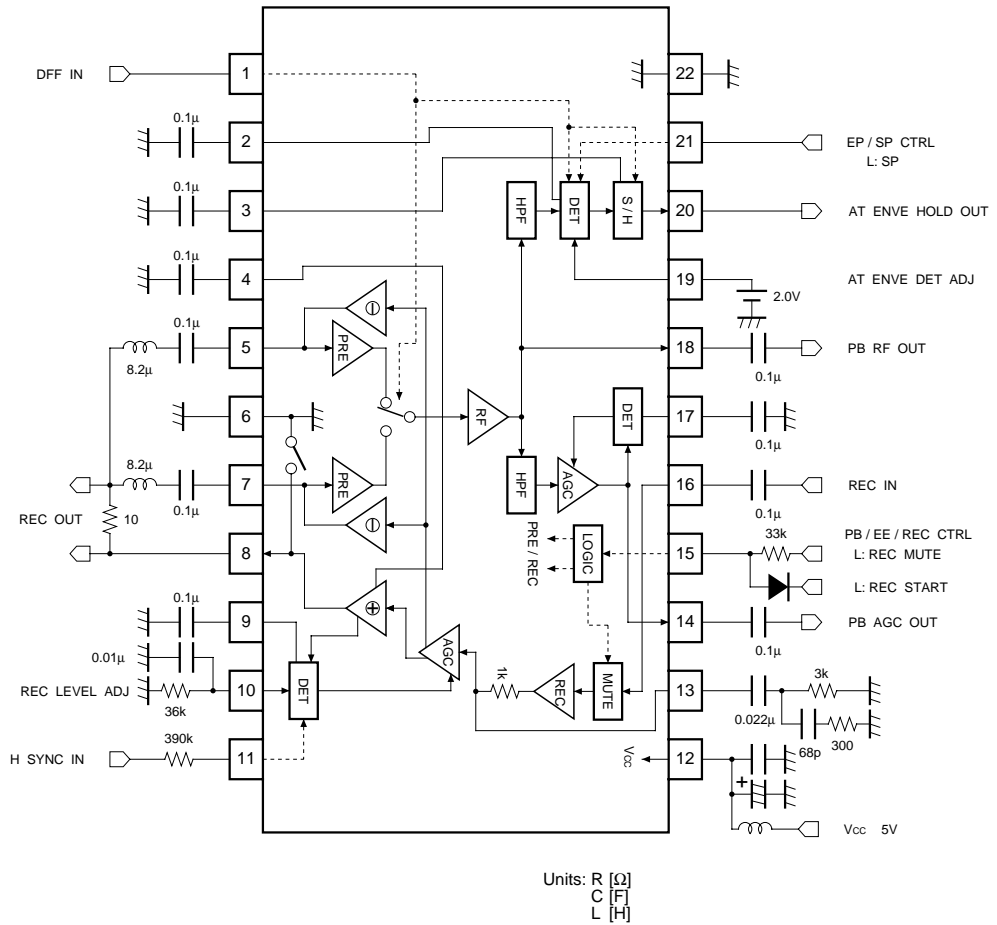

Fig. 2
| Quiescent current | $I_q (R)$ | — | 72 | 108 | mA | No signal | Fig.2 |
| Recording AGC level | I_{OAR} | 30 | 36 | 42 | mA_{P-P} | Pin 16 input = 400mV _{P-P} , pin 8 output measurement | Fig.2 |
| AGC control sensitivity | ΔI_{OAR} | — | 0.15 | 2 | dB | Pin 8 output level difference for $f = 4.0\text{MHz}$, pin 16 input = 225mV _{P-P} to 800mV _{P-P} . | Fig.2 |
| AGC frequency characteristic | ΔI_{OAF} | -2 | 0 | 2 | dB | Pin 8 output level difference for $f = 8.0 / 1.0\text{MHz}$, pin 16 input = 400mV _{P-P} | Fig.2 |
| 2nd harmonic distortion | 2HDR | — | -41 | -35 | dBc | Pin 16 input = 400mV _{P-P} , 8.0MHz spurious. | Fig.2 |
| 3rd harmonic distortion | 3HDR | — | -50 | -40 | dBc | Pin 16 input = 400mV _{P-P} , 12.0MHz spurious, guaranteed design value. | Fig.2 |
| Cross modulation distortion | CMDR | — | -43 | -38 | dBc | 4.0MHz \pm 630kHz spurious, guaranteed design value. | Fig.2 |
| Maximum output level | I_{OMR} | 42 | 50 | — | mA_{P-P} | When pin 8 output 2nd harmonic distortion is -30dB | Fig.2 |
| Recording current load characteristic | ΔI_{ORL} | -2 | -0.35 | — | dB | Pin 8 output level difference for load L: 8.2 ~ 12 μ H | Fig.2 |
| Mute attenuation ratio | MUR | — | -44 | -38 | dBc | Pin 8 output level difference for pin 15: M / H. | Fig.2 |
| Frequency characteristic | ΔI_{OEQ} | -5.3 | -7.8 | -10.3 | dB | Pin 8 output level difference for $f = 8.0 / 1.0\text{MHz}$, AGC OFF | Fig.2 |
| AGC mode holding voltage | V_{TH11H} | 2.7 | — | V_{CC} | V | Pin 11 DC voltage to maintain recording AGC operation | Fig.2 |
| AGC mode holding voltage | V_{TH11L} | 0 | — | 1.2 | V | Pin 11 DC voltage to maintain recording AGC stopped | Fig.2 |
| PB mode holding voltage | V_{TH15H} | 3.8 | — | V_{CC} | V | Pin 15 DC voltage for PB mode | Fig.2 |
| EE mode holding voltage | V_{TH15M} | 2.2 | — | 2.8 | V | Pin 15 DC voltage for REC MUTE mode | Fig.2 |
| REC mode holding voltage | V_{TH15L} | 0 | — | 1.2 | V | Pin 15 DC voltage for REC mode | Fig.2 |